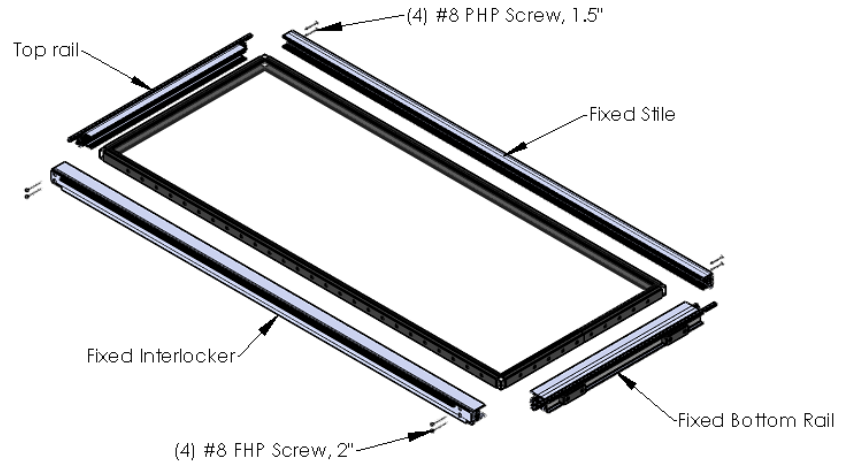

Figure 8:
5. Secure the stiles to the top and bottom rail with (4) #8 x 2” flat head screws for the interlocker and (4) #8 x 1-1/2” pan head screws for lead stile (Figures 8).